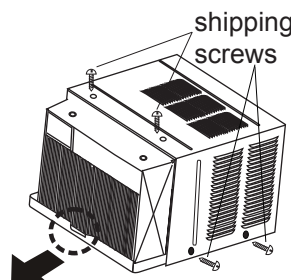

Fig.5
7. Remove shipping screws from top of unit and also on the side by the base if installed(see Fig.5).